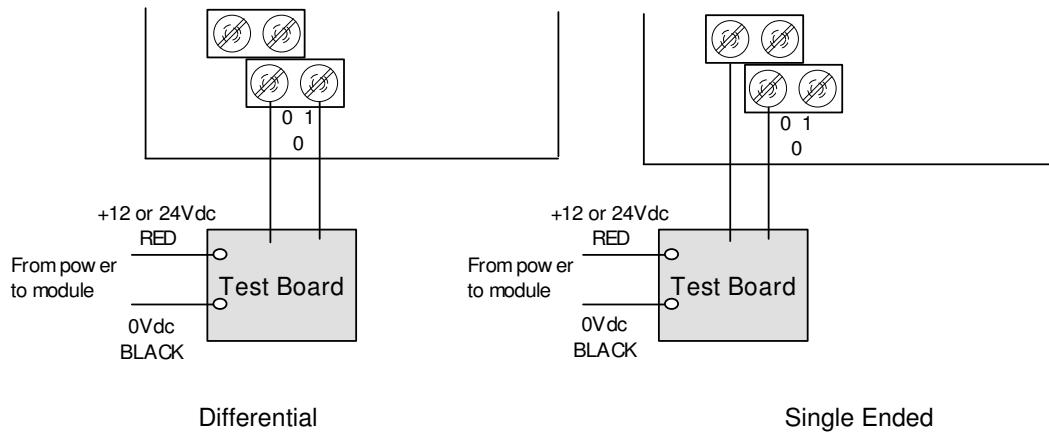

Figure 7 - Connection of Test board
2. Connect the test board between the Power Supply source and Input 0 as per figure 7.